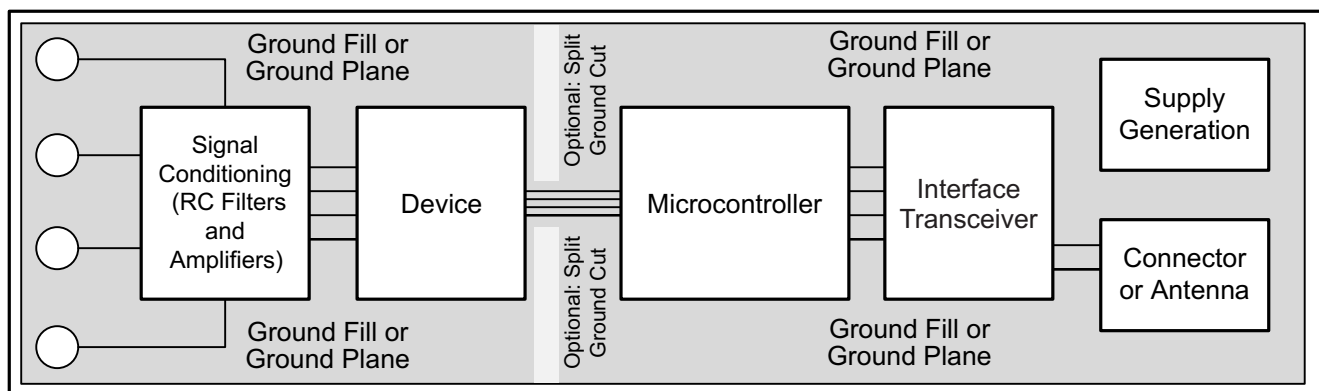

Figure 49. System Component Placement
Use best design practices when laying out a printed-circuit-board (PCB) for both analog and digital components. This recommendation generally means that the layout separates analog components [such as ADCs, amplifiers, references, digital-to-analog converters (DACs), and analog muxes] from digital components [such as microcontrollers, complex programmable logic devices (CPLDs), field-programmable gate arrays (FPGAs), radio frequency (RF) transceivers, universal serial bus (USB) transceivers, and switching regulators]. An example of good component placement is shown in Figure 49. Although Figure 49 provides a good example of component placement, the best placement for each application is unique to the geometries, components, and PCB fabrication capabilities employed. That is, there is no single layout that is perfect for every design and careful consideration must always be used when designing with any analog component.